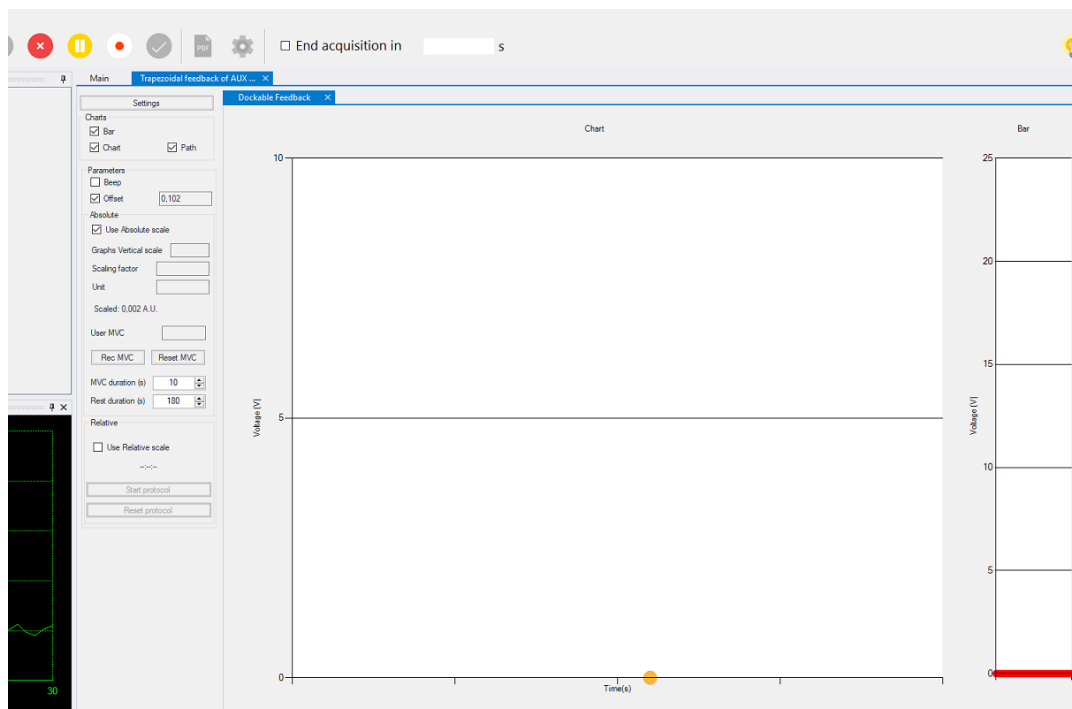

Fig. 8.13: Trapezoidal feedback processing start window.
The plug-in will calculate the feedback as the average updated for each new packet sent by the device of the differences between the signals detected by the two selected electrodes. Following the choice of the electrodes pair, the same window of the first case will open (Fig. 8.13).
In figure 8.13 you can see the yellow dot representing the force indicator in a Chart graph in Voltage (V) on Time (s).
So, the check box "Use Absolute scale" is already selected, see figure 8.13, by clicking on the Rec MVC button you start recording.